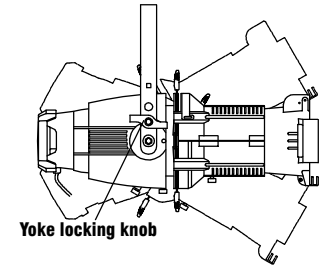

Figure 11
2. Tilt the fixture to the desired position (Figure 11).